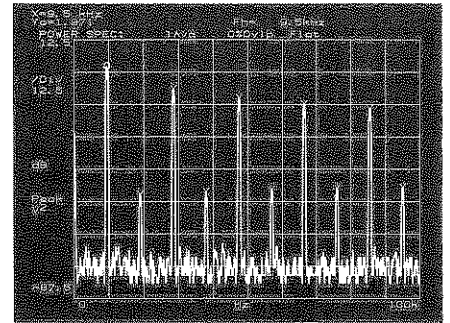

Figure 5-3
**5. Harmonic Marker** Press the **SPCL MARKER** (special marker) key. Select the **HMNC ON** (harmonic on) softkey to activate the harmonic markers and the associated softkey menu. Twenty harmonic markers are displayed as shown in Figure 5-3.